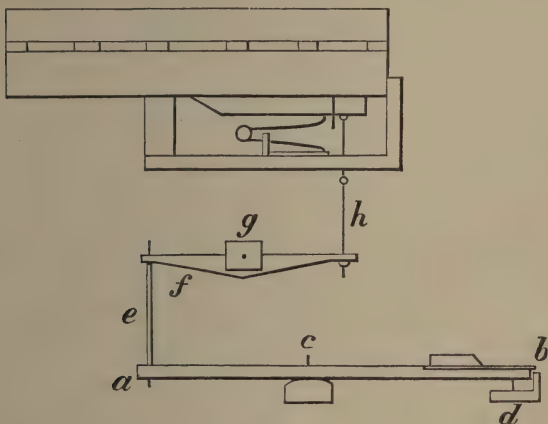

Fig. 32.
A simple and rudimentary example of the principle underlying all systems of organ-action may be seen in Fig. 32. *a b* is the key-board, in which
2. We shall assume that the front board of the wind-chest is above the keys, and that the organ is to stand against the wall. Hence the backfalls will be turned towards the player, as in Figs. 32 and 34. But all that we shall say will be applicable to backfalls acting on a back wind-chest.